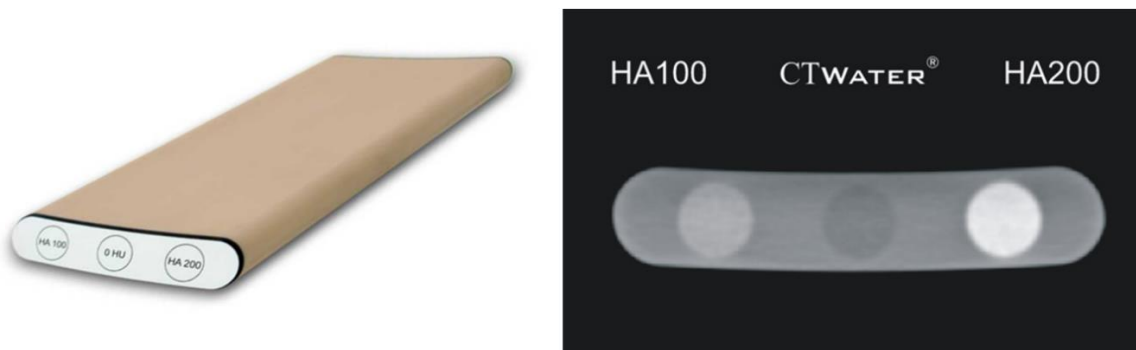

Fig. 4-1: QRM™ BDC Phantom
The CT scanner reports physical density in Hounsfield units (HU). These values must be converted to BMD. For this purpose, a QCT Calibration Phantom is measured simultaneously with the subject. In this study, the QRM™ Bone density calibration phantom (BDC) (Fig. 4-1) will be used. It is composed of rods enclosed in a durable plastic material to protect them from damage. The rods are made of a standard material with known density that has X-ray attenuation properties similar to bone. This allows establishment of a mathematical relations between CT number and BMD. Further details, in particular on how it is used during the CT acquisition, are described in Section 5.4 -QCT Subject Examination Procedures - Preparations.